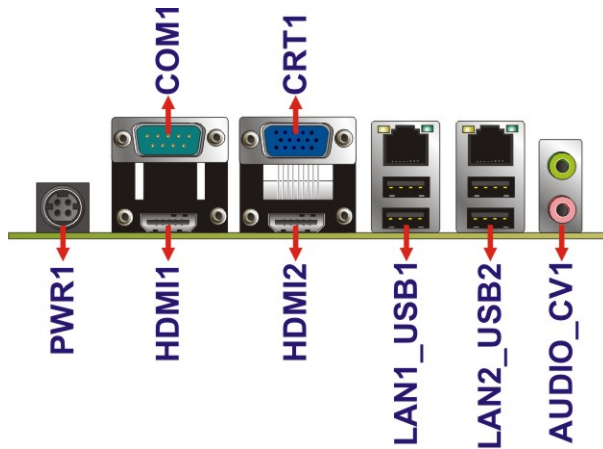

Figure 3-22: KINO-QM57A External Peripheral Interface Connector
Figure 3-22 shows the KINO-QM57A external peripheral interface connector (EPIC) panel.
CN Location:	See Figure 3-22
CN Location: See **Figure 3-22**
- CN Location:** See **Figure 3-22**
CN Location: See Figure 3-22